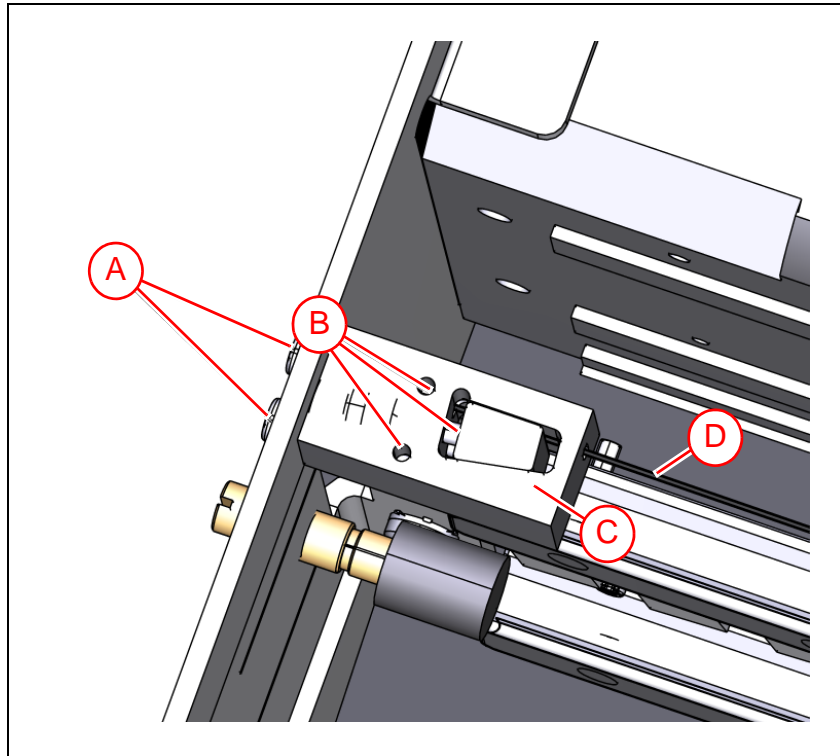

Figure 5-25. Opening the upper machine cover.
1. Make sure that the two screws ('A' in Figure 5-25) holding the end bracket ('C'), and the two screws securing the steel strip ('D') has the correct length by checking that the screws are visible through the inspection holes ('B') in the end brackets.